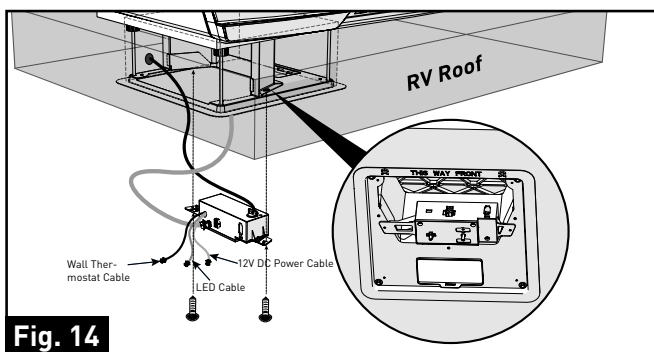

Fig. 14
15. Install the control box into the mounting frame and fix with 2 self-tapping screws (one piece each side). (Fig. 14)